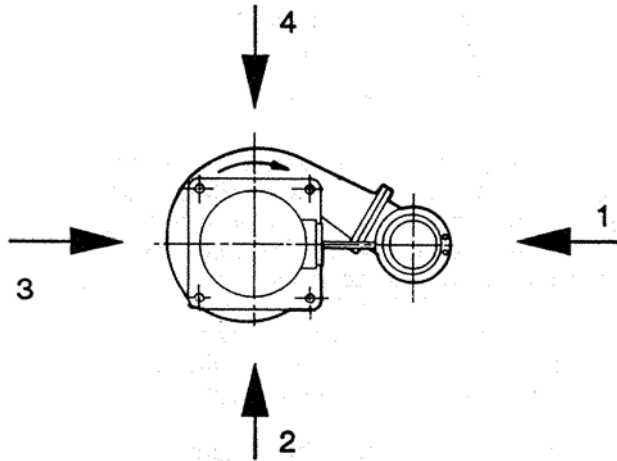

Figure 6: Directions of viewing coupling. View from top of pump.
1. Sheave Alignment - Alignment must be maintained for full power transmission, minimum vibration, and long drive life. A dial indicator can be used to check runout on the periphery and face of each sheave. A straight edge can be used to check the alignment of the pump and drive sheaves in the vertical direction, See Fig. 6 page 6.